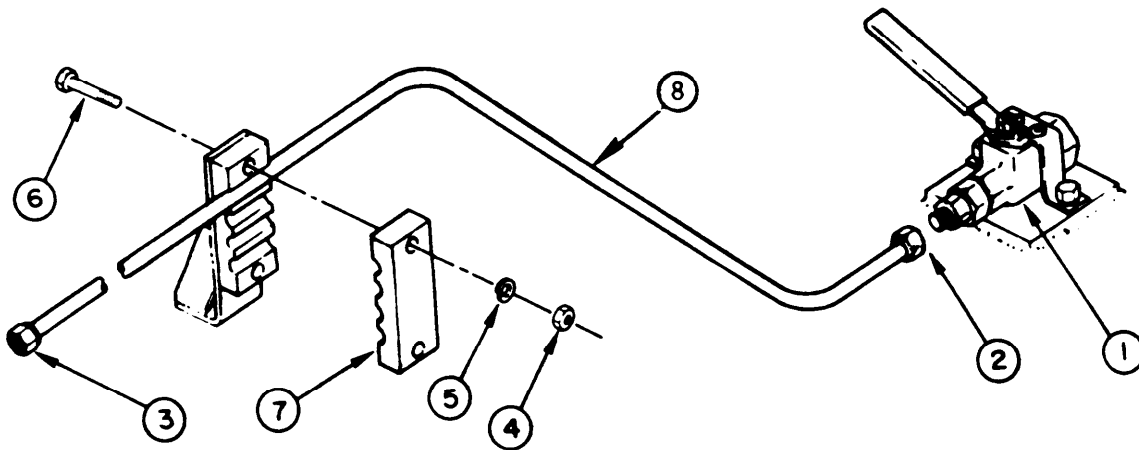

Figure 2-99. Drain Lines (Typical)
- (1) Hold pipe assembly (6) in place on ROWPU.
- (2) Locate two clamps (5) and insert four bolts (4) and four flatwashers (3) through clamp (5) and ROWPU frame member.
- (3) Install, but do not tighten, four lockwashers (2) and four nuts (1) to bolts (3).
- (4) Connect pipe unions at both ends of installed pipe assembly.
- (5) Tighten four nuts (1).
- (6) Check all fittings for leaks.
e. Removal of Drain Pipe (Typical). (Figure 2-99)
- (1) Unscrew coupling nut (2) to remove pipe (8) from drain valve (1).
- (2) Unscrew coupling nut (3) by same method.
- (3) Remove two nuts (4) and two lockwashers (5) from bolts (6) on tube support (7).
- (4) Remove two bolts (6) from tube support (7).
- (5) Open tube support (7) and remove pipe (8).
- (6) Reassemble tube support (7) with other pipes in original positions.
- (7) Repeat steps (4) through (6) for each tube support holding the pipes (8).
- (8) Remove pipe (8) from ROWPU.
h. Installation of Drain Pipe. (Typical. (Figure 2-99)
- (1) Place pipe assembly (8) in approximate position in ROWPU frame.
- (2) Locate tube support (7) over tubes.
- (3) Insert bolt (6) through tube support (7).
- (4) Install, but do not tighten, two lockwashers (5) and two nuts (4).
- (5) Repeat steps (1) through (4) for each tube and tube clamp.
- (6) Connect coupling and tighten nut (2) to valve (1).
- (7) Connect coupling and tighten nut (3) to ROWPU-applicable component.
- (8) Tighten all nuts (4) on tube support (7).
- (9) Perform operational test and check all fittings for leaks.